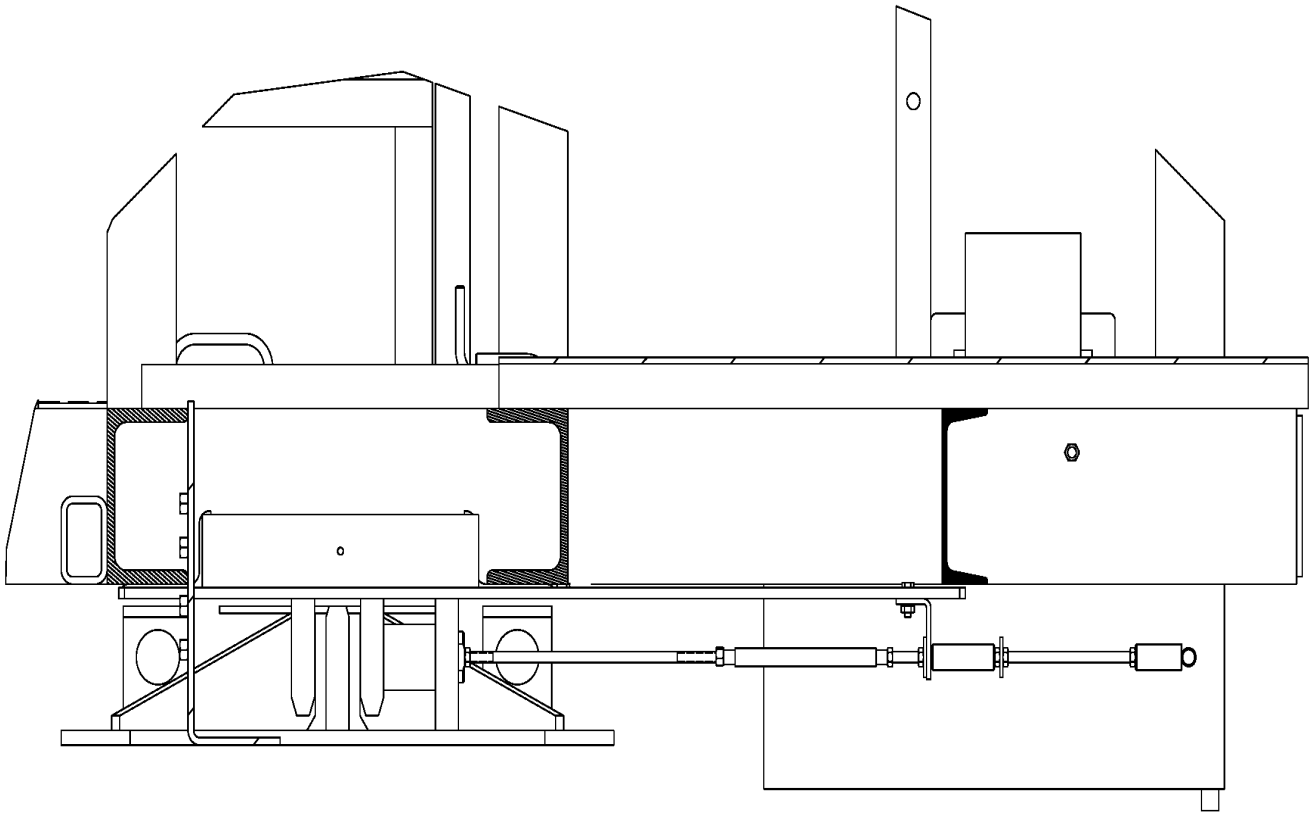

Fig. 1
**SUMMARY:** A new alternative manual lock-up kit for the Turntable Base on the Super Claws is now available as Kit **P/N 98350661**. This new kit provides an alternative method to lock up the turntable base and when installed replaces the original chain and hook mechanism. This alternative lock-up version uses a new base with lugs welded on it that allow a pin to be inserted through the hole in the lug. The pin is inserted and removed from the opposite side of the operator position. See **Fig. 1** for LH machine example. The original hook and chain mechanism will continue to be offered and supported. This alternative method can be used as a matter of preference.